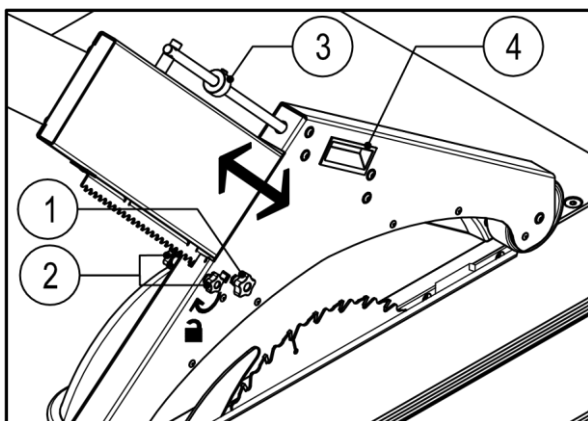

Fig.27
The connection at the bottom of the saw unit has a diameter of 120 mm, on the saw guard (via the support pipe) with a diameter of 100 mm. The saw guard itself must be set so that the saw blade and the scoring blade are protected and the piece to be machined can be moved just under the cover. The height adjustment of the hood is done by pulling back the pin (fig. 27, 2). With normal use pull the pin (fig. 27, 2) backwards and lower the saw blade onto the work table. The saw cover will automatically raise when entering workpieces up to a certain thickness. For workpieces where a larger cutting height is required: grasp the saw blade on the handle (4), pull the pin (2) back and place the saw blade in the desired position. Push the clamping pin 2 forward again and the saw blade is fixed. The saw cover can no longer lower, but will go up if a higher workpiece is inserted. To lock the saw blade in both directions, screw in the clamp pin (fig. 27, 1). To set a maximum cutting height, place the ring (3) in the desired position.